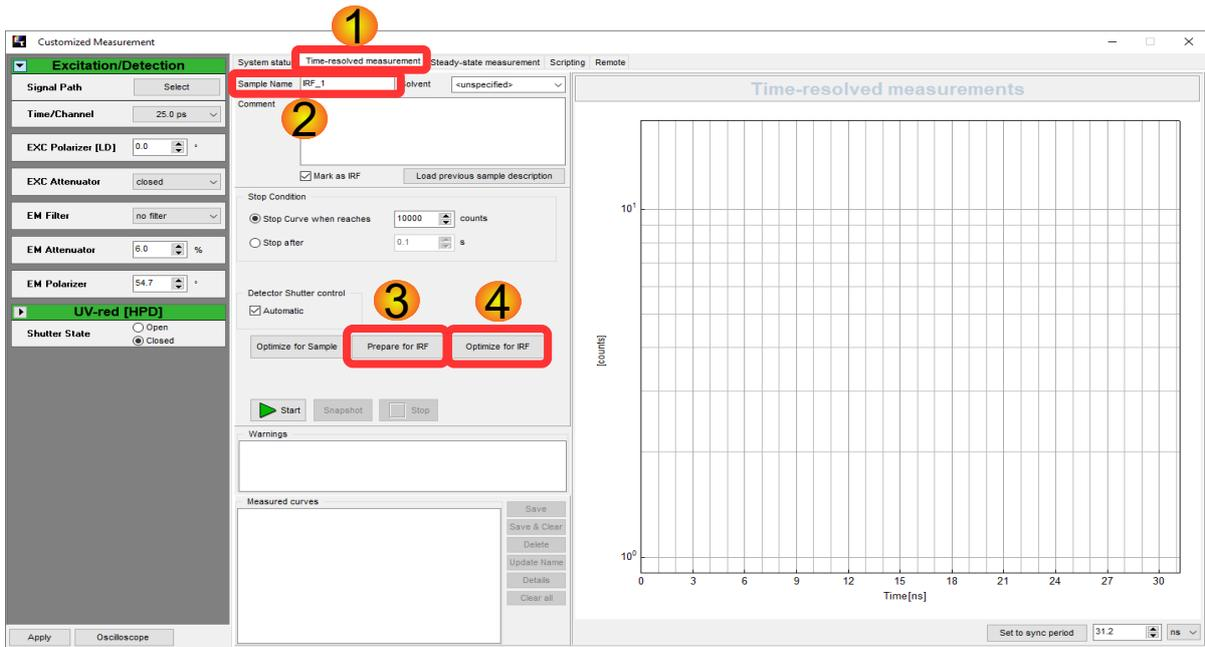
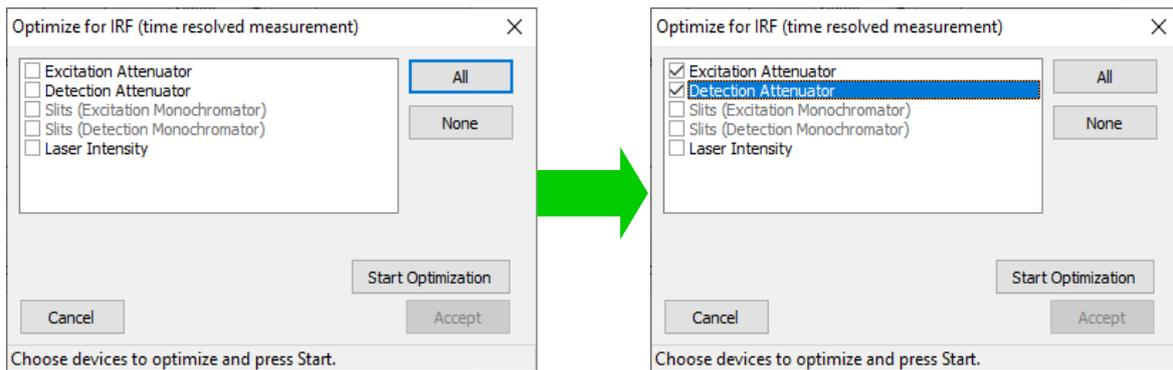

Fig. 31: Time-resolved measurement mode.
Fig. 32: Optimize for IRF window.
- Choose *Time-resolved measurement* (1, Fig. 31)
- Enter the laser name (e.g., LDH-D-C-440) into the “Sample Name” field (2, Fig. 31)
- Press “Prepare for IRF” button (3, Fig. 31) and then OK
- Press “Optimize for IRF” button (4, Fig. 31). The following window will appear (Fig. 32):